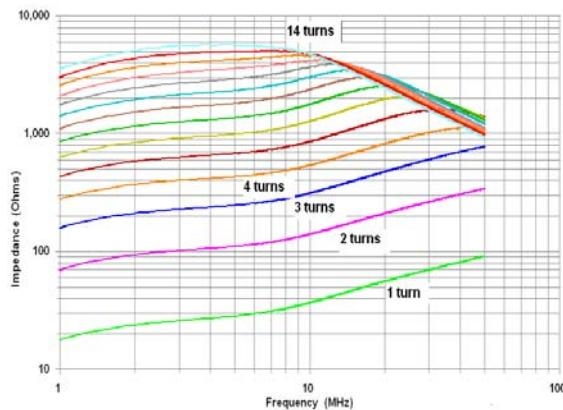
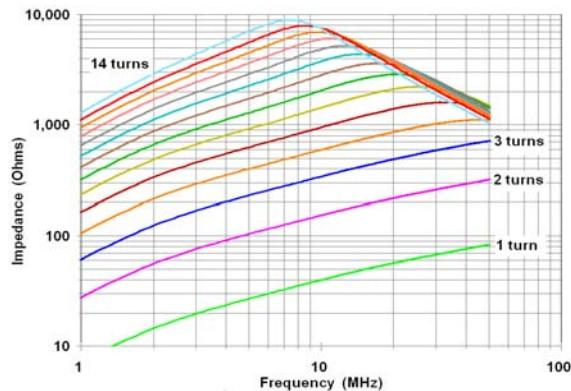

Fig 18a – Impedance of multi-turn chokes on a 2.4" o.d. toroidal core , but made of Fair-Rite's new#31 mix (Measured Data)
Fig 19a – Impedance of multi-turn chokes like those of Fig 16a, but on a Fair-Rite #43 core. (Measured data)
**New #31 Material is a Problem Solver** The relatively new #31 material made by Fair-Rite Products is extremely useful, especially if some component of your problem is below 5 MHz. Measured data for the new material is displayed in Figs 18a and 18b. Compare it with Figs 19a and 19b, which are corresponding plots for the older #43 material. By comparison, #31 provides nearly 7 dB greater choking impedance at 2 MHz, and at least 3 dB more on 80 meters. At 10 MHz and above, the two materials are nearly equivalent, with #43 being about 1 dB better. If your goal is suppression or a feedline choke (a so-called current balun), the #31 material is the best all round performer to cover all HF bands, and is clearly the weapon of choice at 5 MHz and below. Between 5 MHz and 20 MHz, #43 has a slight edge (about 1 dB), and above 20 MHz they're equivalent. We'll discuss baluns in detail in Chapter 6.
plying these correction factors to the data of Fig 18a tells us that with 1A of bias, we could expect our 10 turn choke to look like about 1,100  $\Omega$  at 5 MHz, 1,600  $\Omega$  at 10 MHz, and 2,000  $\Omega$  at 20 MHz. This is still a fairly reasonable choke, and should provide reasonable noise suppression for receiving. When transmitting, however, this choke will be severely saturated, reducing its impedance to about 250 ohms at 10 MHz. Thus, if we suspect transmitter RF coupling via the radio's power lead to the automotive electrical system, we would use a larger ferrite part – one that has a much larger cross sectional area for flux, like the "big clamp-on" of Fig 38.